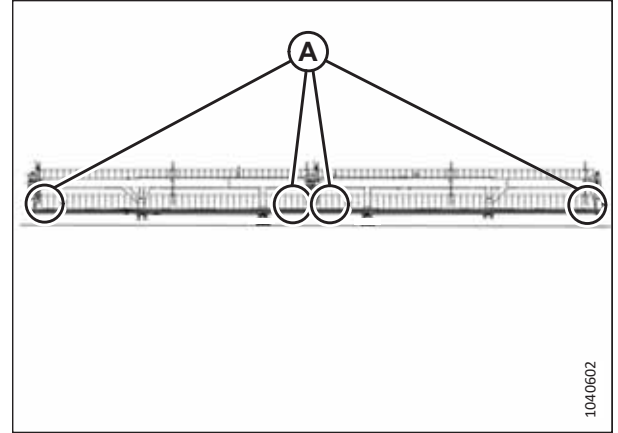

Figure 4.277: Double-Reel Header Measurement Locations
- Figure 4.277, page 415 – double-reel headers